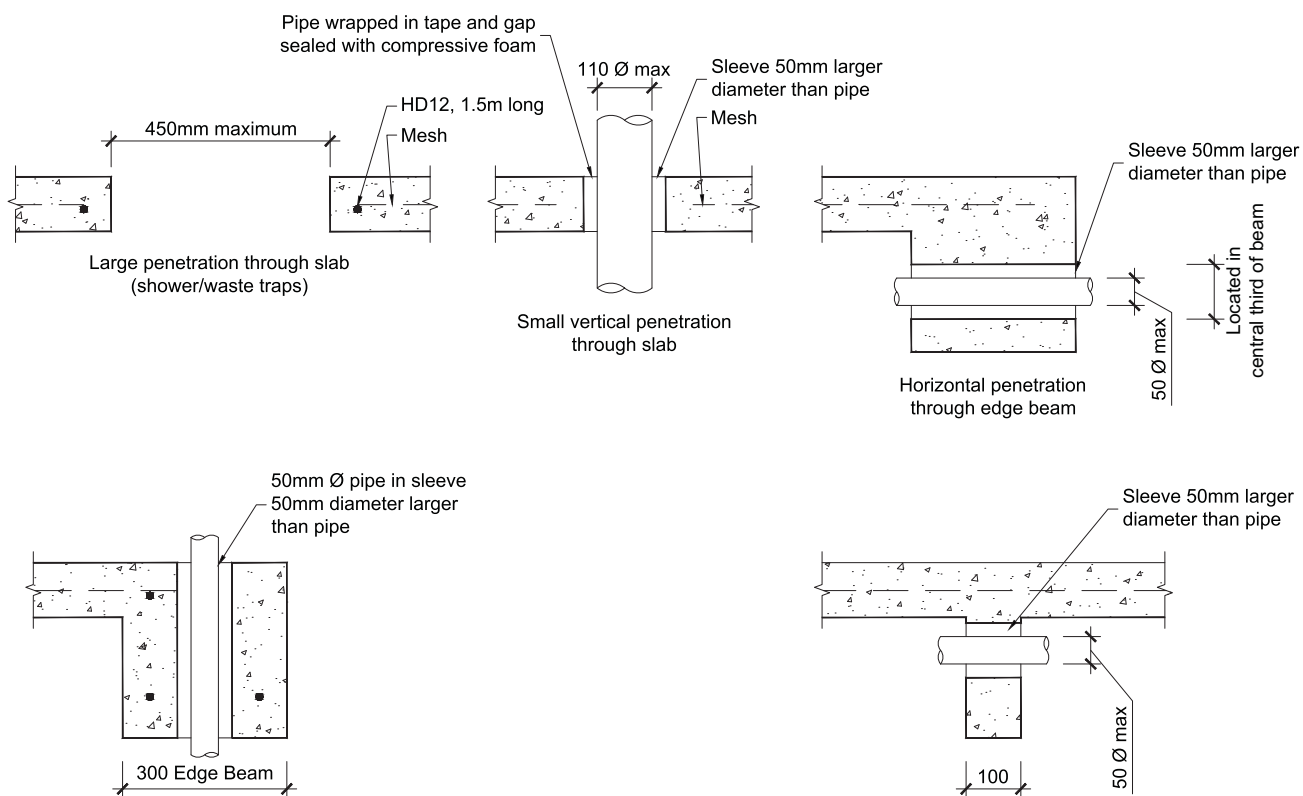

Figure 12 Example of detailing requirements for services
(1) For situations where a 100mm diameter pipe is required to pass through the edge beam, the edge beam shall be locally increased in width to a minimum of 500mm wide. This shall be achieved by keeping flush the outside face of the edge beam and removing 200mm from the pod. The width shall remain at 500mm for a distance of 600mm beyond the service pipe. Refer to figure 12 for details.
(2) The need for a duct 50mm larger than the service diameter can be deleted when the pipe work does not cross the interface between the bottom of the RibRaft system and the ground at any point along its length. An example would be services laid within the plane of the pods and passing through the edge beam and discharging to a gully trap or similar. In these cases the diameter of the service can be increased to a maximum of 100mm and a service duct is not required. The pipe work shall be wrapped in denso tape where it crosses concrete elements to prevent adhesion between the concrete and pipe work.
(3) Where a gas pipe line runs through the RibRaft floor system, in addition to the requirements above, the pipeline shall enter the building through the outside face of the perimeter foundation beam and be located in the plane of the pods. The aim being to ensure that damage to the gas pipe will most likely occur outside the building envelope should movement occur between the ground and RibRaft in a large earthquake.
(4) Larger penetrations or voids up to 450mm square (e.g. for shower waste/traps) are permitted through the slab provided all the conditions of this paragraph are met. These openings shall be trimmed with 1 HD12 (Grade 500E) bar 1500mm long placed along each side of the opening, tied to the mesh. One set of parallel bars shall be placed on top of the mesh and the other set placed under
Any services crossing ribs or the edge beam horizontally shall be placed only within the middle third of the member. Except as noted in figure 12, services crossing the ribs vertically shall also be constrained to the middle third of the width of the edge or internal load bearing rib. Except as noted in figure 12 at no stage shall any of the reinforcement bars be relocated or cut to allow for the services (it is acceptable, however, to cut the mesh). In some instances this will prevent the location of the ribs. The pods shall be cut to allow for this and if necessary, the spacing of the ribs shall be decreased locally. There shall be 600mm minimum clear spacing in each direction between penetrations through the system.
and a type of easily compressible foam). A pictorial of some of the above requirements is illustrated in figure 12:
Where required, the services can be installed by removing unnecessary polystyrene and placing pipes within the pod depth. All pipes shall be held firmly in place and have temporary end covers. Any services crossing ribs or the edge beam horizontally shall be placed only within the middle third of the member. Except as noted in figure 12 (section 1) services crossing the ribs vertically shall also be constrained to the middle third of the width of the edge or internal load bearing rib. Except as noted in figure 12 (section 1) at no stage shall any of the reinforcement bars be relocated or cut to allow for the services (it is acceptable, however to cut the mesh). In some instances this will dictate the location of the ribs. The pods shall be cut to allow for this and if necessary, the spacing of the ribs shall be decreased locally. There shall be 600mm minimum clear spacing in each direction between penetrations through the system.